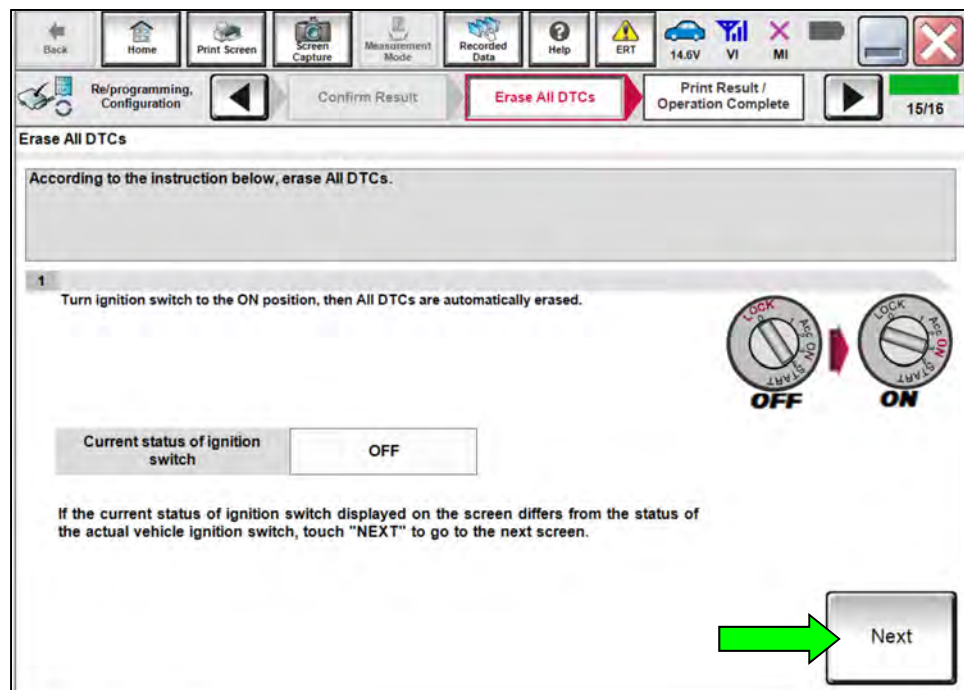

Figure 19
27. Press the power switch two (2) times to turn the EV system back on (Figure 19).